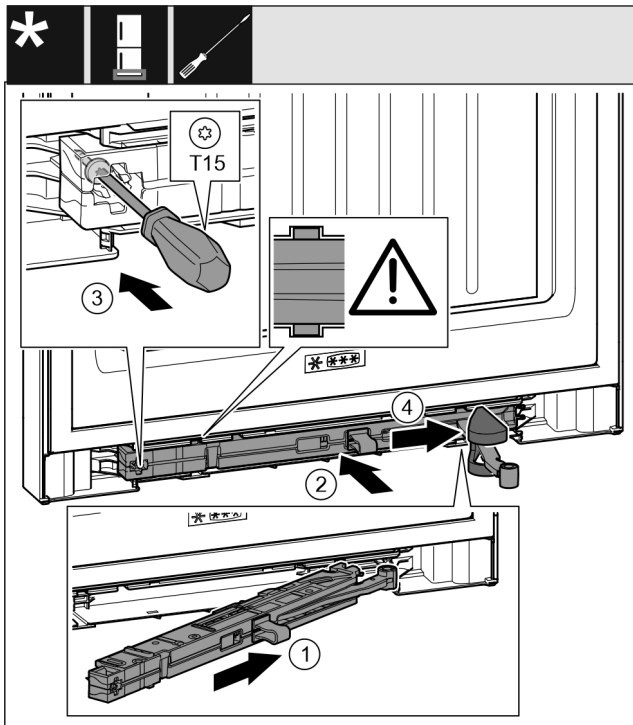

Fig. 45
- ▶ Slide the soft stop unit on the bearing bracket side at an angle into the slot as far as it will go. Fig. 45 (1)
- ▶ Slide the soft stop unit fully into the slot. Fig. 45 (2)
- ▶ Tighten the screw with a T15 screwdriver. Fig. 45 (3)
- ▶ Push the cover over the hinge. Fig. 45 (4)